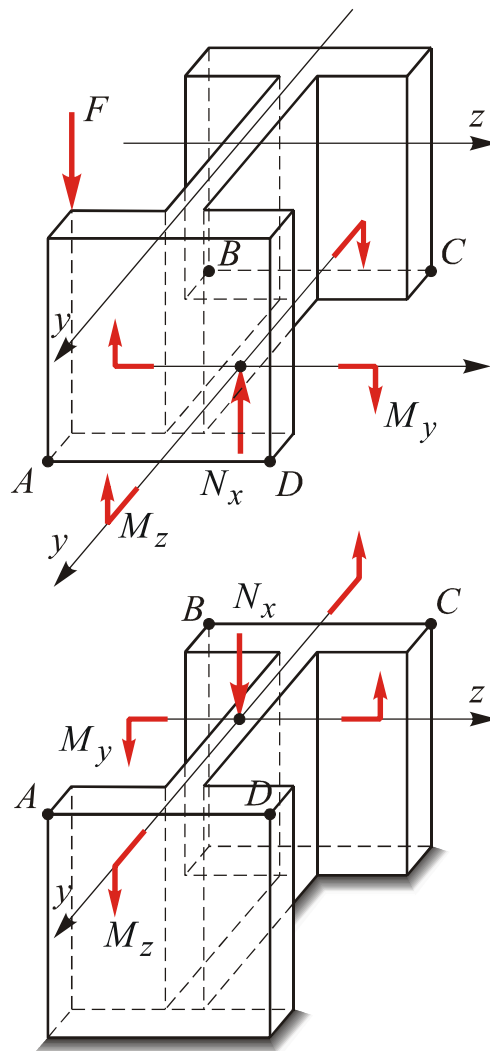

Fig. 2
1) Let us cut the column mentally in an arbitrary $ABCD$ section according to the method of sections and determine internal forces in top and bottom cross sections of the column (see. Fig. 2):